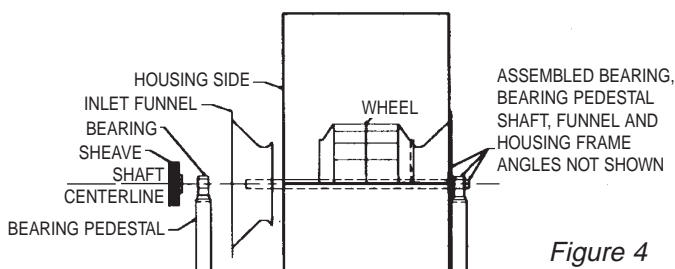

Figure 4
7. Arrangement 3 (Split-housed) units (See Figure 4):